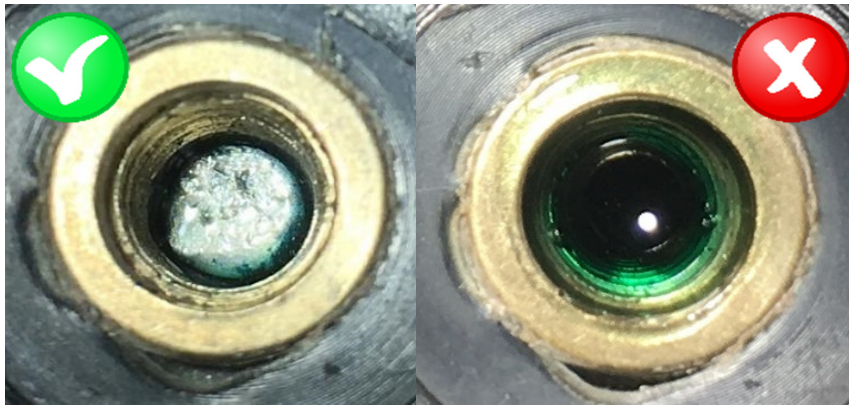

FIG. 14: left photo: free of threadlocker / right photo: screw thread locker residue
- Check the threaded insert on the tank top with a flashlight (FIG. 14):
- ➔ Is the hole free (FIG. 14 left) of superfluous screw thread locker? YES -> Perform installation of the double screw in the next step.
- ➔ If there is a residual amount of screw thread locker in the hole (FIG. 14 right), this residue must be removed with a clean cloth.